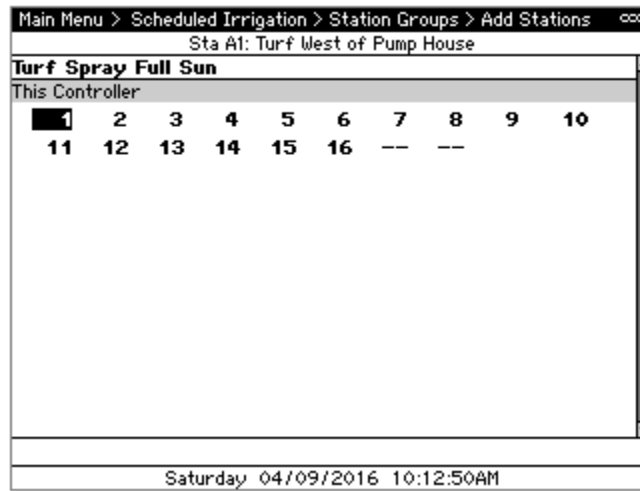

Figure 5 - Add Stations screen
- To add the stations that share these characteristics to the Station Group, navigate to and select **Add Stations**. The Add Stations screen displays (Figure 5).